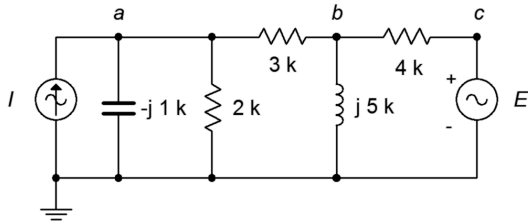

Figure 6.11
21. Given the circuit in Figure 6.11, use mesh analysis to determine v_b . Consider using source conversion. $E = 12\angle 0^\circ$, $I = 10\text{E}-3\angle 0^\circ$.
22. Use mesh analysis to find the current through the $3\text{ }\Omega$ resistor in the circuit in Figure 6.11. Consider using source conversion. $E = 15\angle 90^\circ$, $I = 10\text{E}-3\angle 0^\circ$.